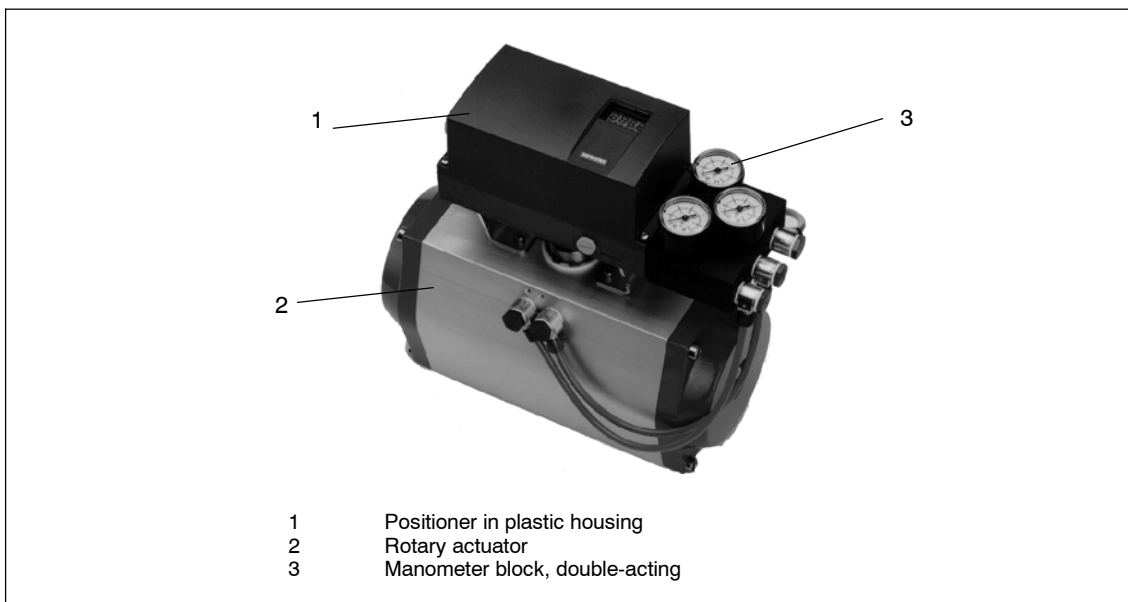

Figure 1-2 Positioner mounted on **rotary actuator** (double-acting)
- with rotary actuator VDI/VDE 3845 (figure 1-2, page 15)